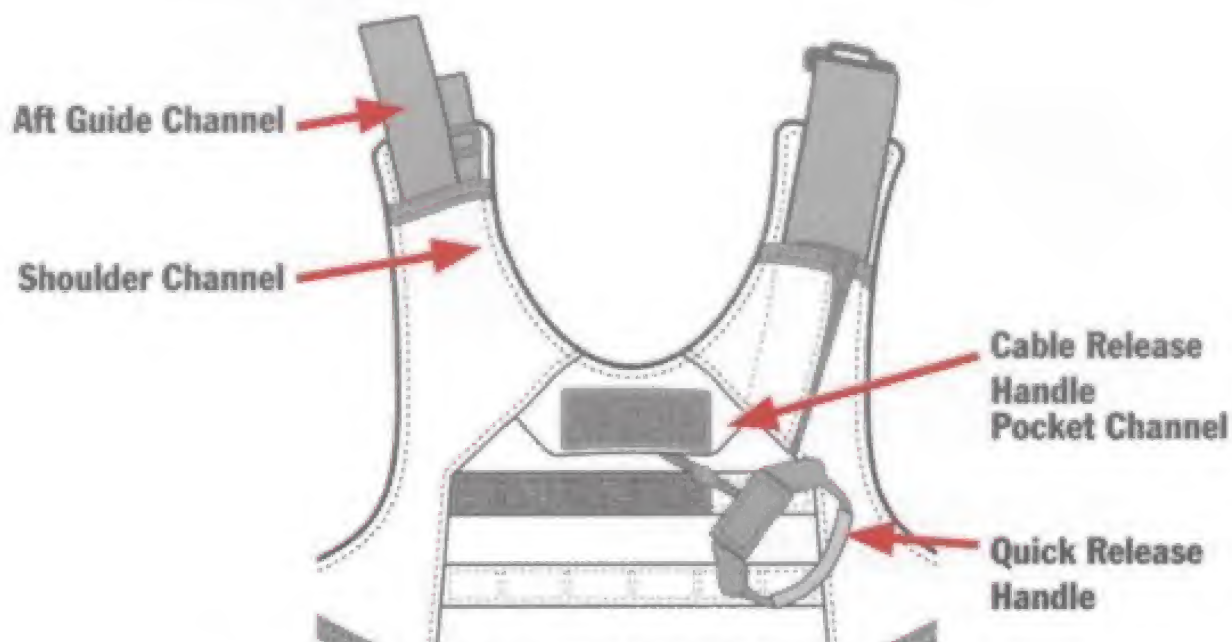

Fig. 21. Routing the Quick-Release Cable.
1. Route the cables into the aft guide channel on the right shoulder in the Front Carrier as shown in Fig. 21.
3. Stow the webbing loop and the Quick-Release Handle in the pocket and secure with the hook and pile patches (inside the pocket) as shown in Fig. 21.